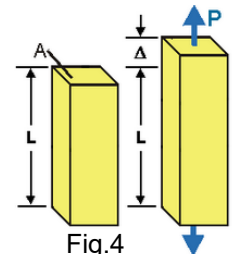

Fig.4
- As shown in Fig.4 a force 'P' is applied over area 'A' thus longitudinal stress $\sigma = \frac{P}{A}$ which causes elongation of the bar by Δ . The initial length of the bar is "L" than